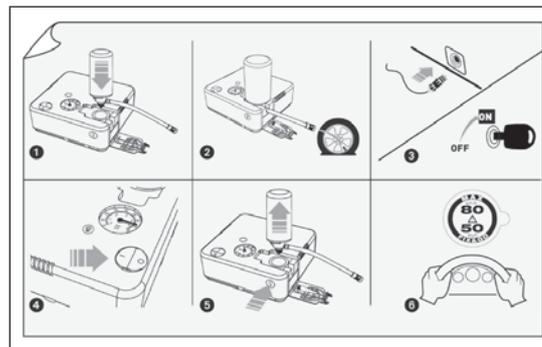

fig. 104
- instruction booklet fig. 104, for the quick and correct use of the Fix&Go;